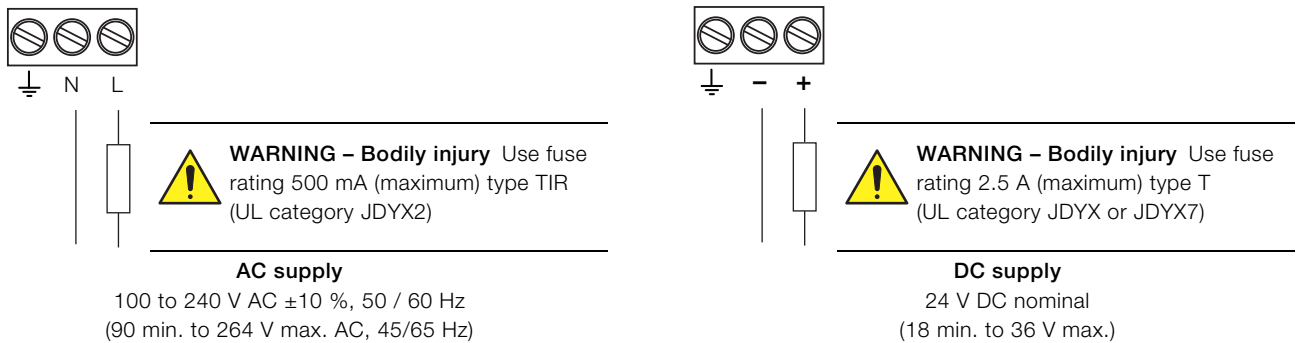

Fig. 4.2 Power supply connections and fuse details
- Ensure the correct fuses are fitted – see Fig. 4.2, page 9 for fuse details.